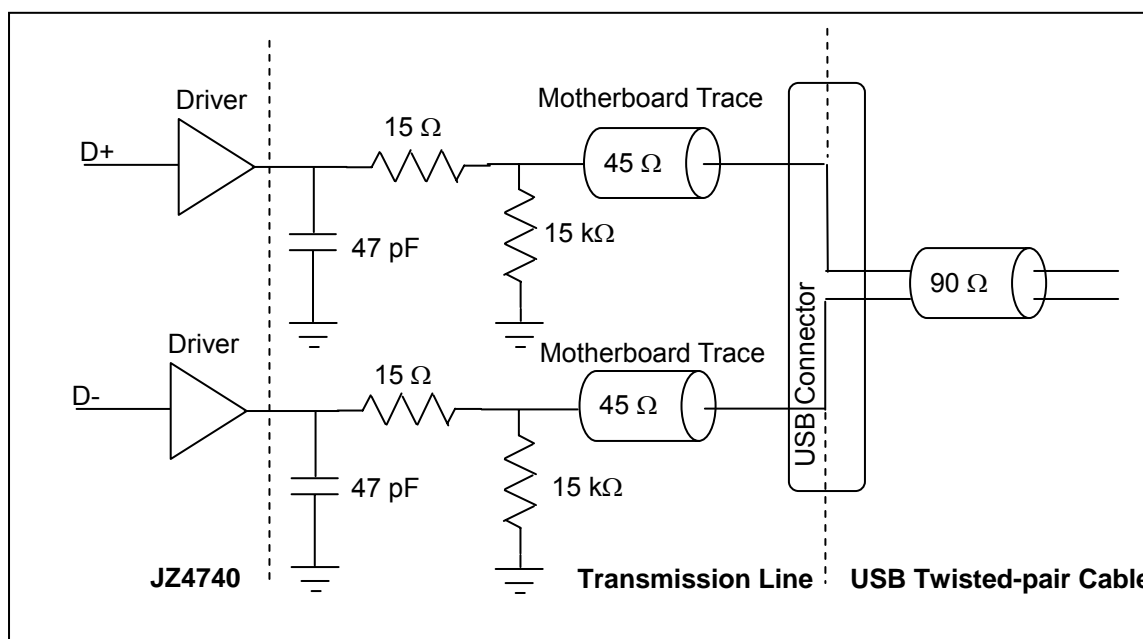

Figure 5-1 Recommend USB Host Schematic
- The trace impedance for the D \pm signals should be 45 Ω (to ground) for each USB signal D+ or D-. This may be achieved with 9-mil-wide traces on the motherboard based on the stack-up recommended in Figure 5-1. The impedance is 90 Ω between the differential signal pairs D+ and D-, to match the 90 Ω USB twisted-pair cable impedance. Note that the twisted-pair characteristic impedance of 90 Ω is the series impedance of both wires, which results in an individual wire presenting 45 Ω impedance. The trace impedance can be controlled by carefully selecting the trace width, trace distance from power or ground planes, and physical proximity of nearby traces.